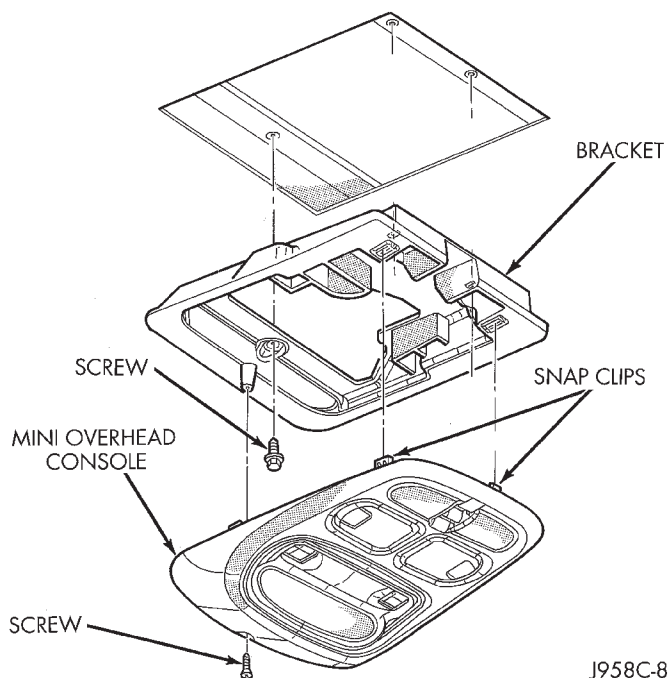

Fig. 4 Overhead Console Remove/Install - Short-Type
(1) Disconnect and isolate the battery negative cable.
(2) Remove the mounting screw, forward of the display unit (Fig. 4).
(3) Using a trim stick or other suitable wide flat-bladed tool, pry gently downwards at the rear edge of the console housing to release the two snap clips.
(4) Unplug the wire harness connectors from the trip computer/compass/thermometer module and the power sunroof switch.
(5) Reverse the removal procedures to install.